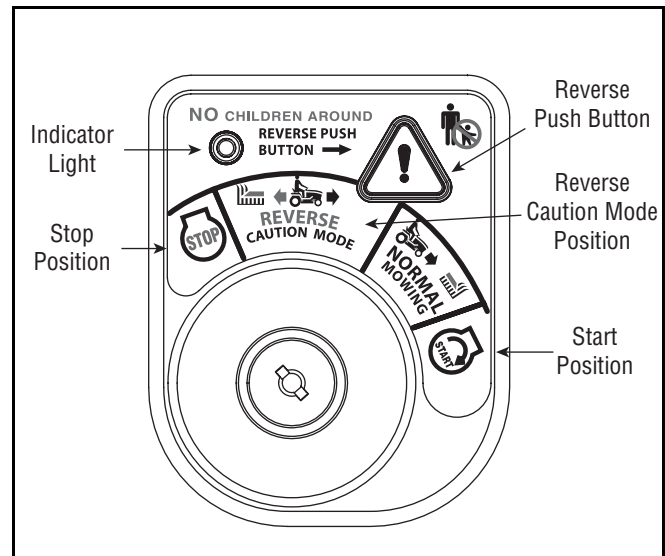

Figure 11
2. Turn the key from the **NORMAL MOWING** (Green) position to the **REVERSE CAUTION MODE** (Yellow) position of the key switch module. See Figure 11.
3. Depress the **REVERSE PUSH BUTTON** (Orange, Triangular Button) at the top, right corner of the key switch module. The red indicator light at the top, left corner of the key switch module will be **ON** while activated. See Figure 11.